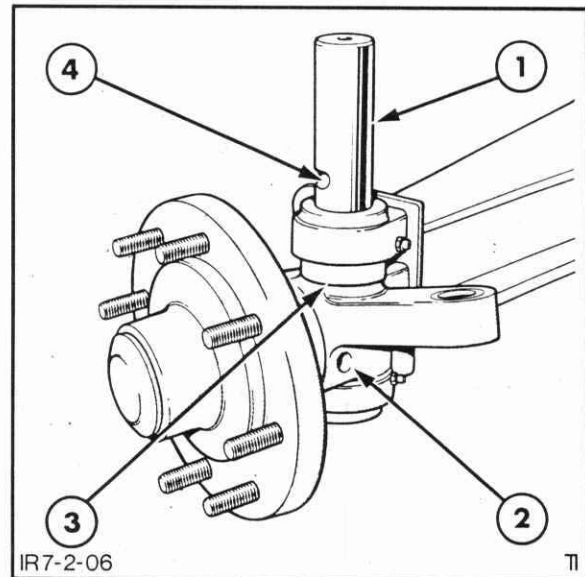

Figure 7-54
4. Drive the spindle pin from the axle housing, refer to Figure 7-54.